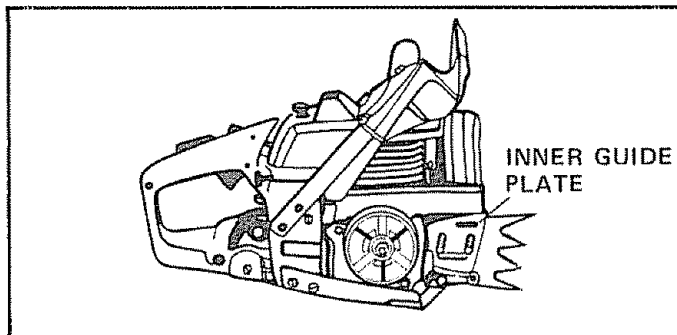

Figure 3
- Install the Inner Guide Plate over the bar mounting studs. Figure 3.